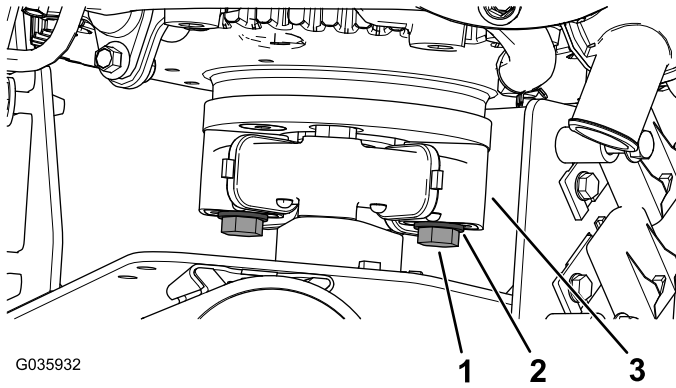

Figure 4
5. Remove the 2 bolts and 2 washers from the coupler assembly (Figure 4).